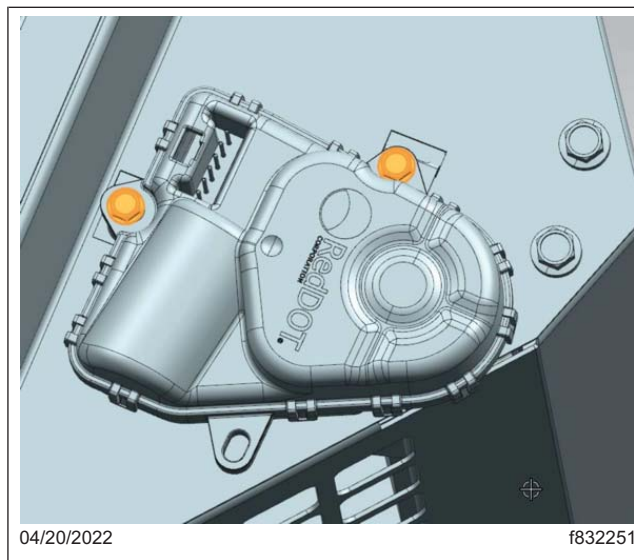

Fig. 2, Actuator Hexhead Screws
5. Remove the two hexhead screws shown in **Fig. 2** and remove the actuator from the HVAC unit.